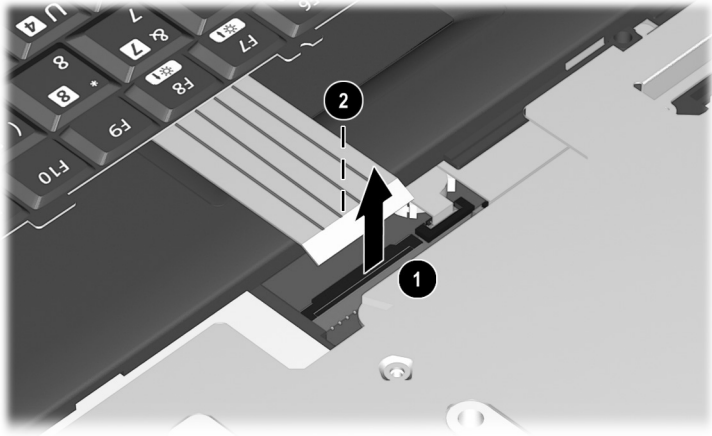

Figure 5-7: Disconnecting the Keyboard Cable
5. Release the zero insertion force (ZIF) connector to which the keyboard cable is connected ❶ and disconnect the keyboard cable from the system board ❷ (Figure 5-7).